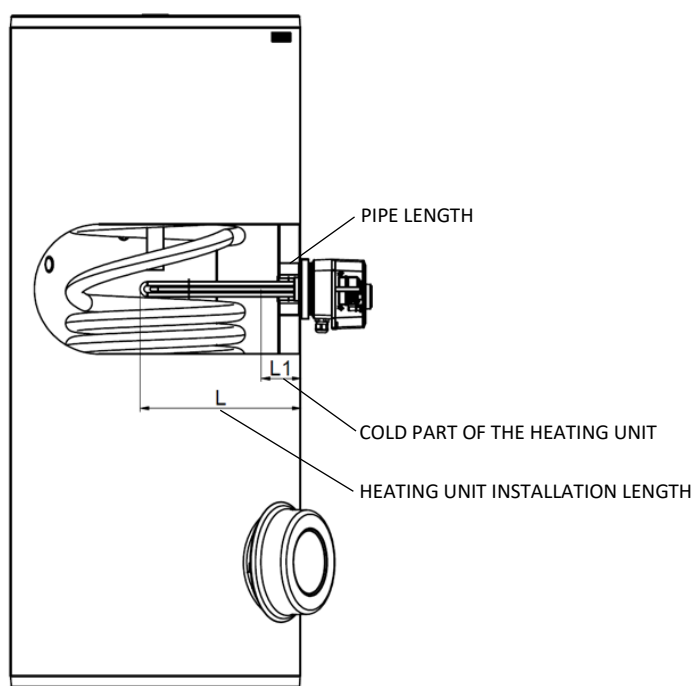

Figure 3
***Attention! In the TJ 6/4" 3.3kW heating unit, the cold part is shorter than in other types. The pipe must be as long as the length of the TJ cold part - see Fig. 3**
- **For the installation lengths of the heating units L and L1, see table 1 and figure 3.**